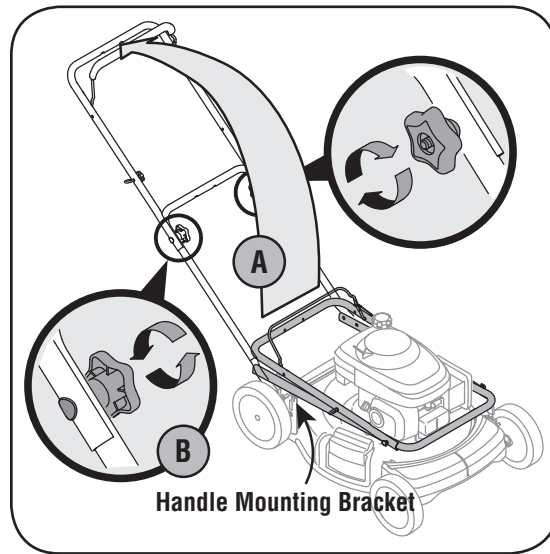

Figure 3-1: Unfold handle and tighten hardware.
- a. Pull up and back on upper handle as shown in Figure 3-1. Make certain the lower handle is seated securely into the handle mounting brackets.
- b. Tighten star knobs securing upper handle to lower handle, Figure 3-1. Make sure that each carriage bolt is seated properly in the handle.